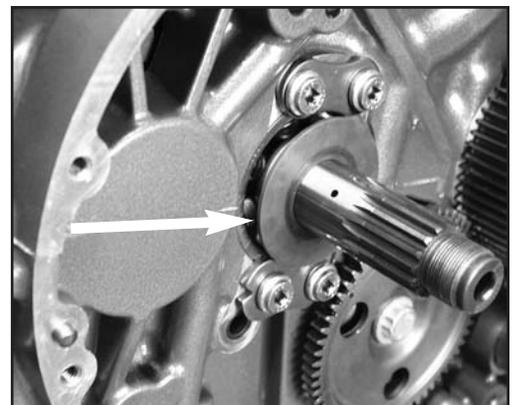

Fig.3
5. Note the position of the thrust washer behind the clutch basket, **Fig. 3**.